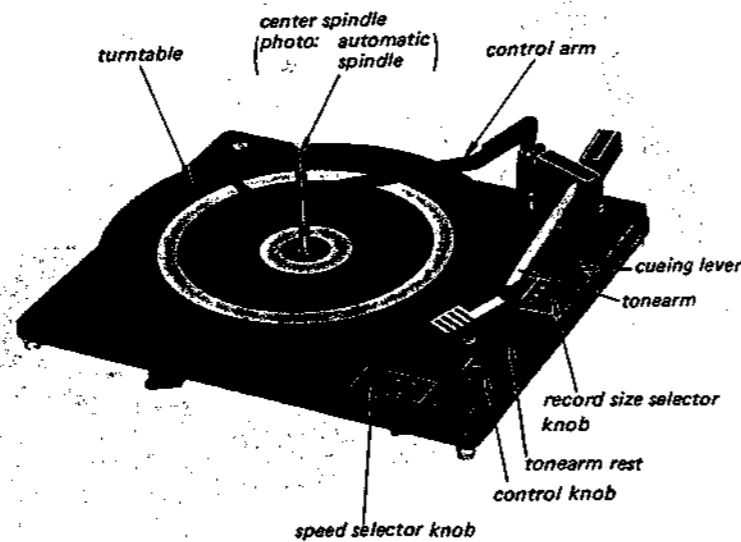

Fig. 1
- Refer to Fig. 1 and the exploded views.
### IDLER PULLEY ADJUSTMENT (Refer to Fig. 1 - 4)
- Refer to Fig. 1, 3, 4 and the exploded views.